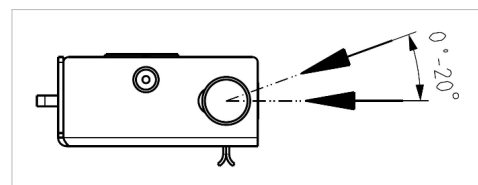

Figure 5: Unlocking direction and angle
- Unlocking via smoke and heat exhaust ventilation (SHEV) cylinder/-actuator: By applying a force in the unlocking direction (Figure 5). The required unlocking forces can be found in the Technical Data section.
Unlocking angle [°]	Figure 5